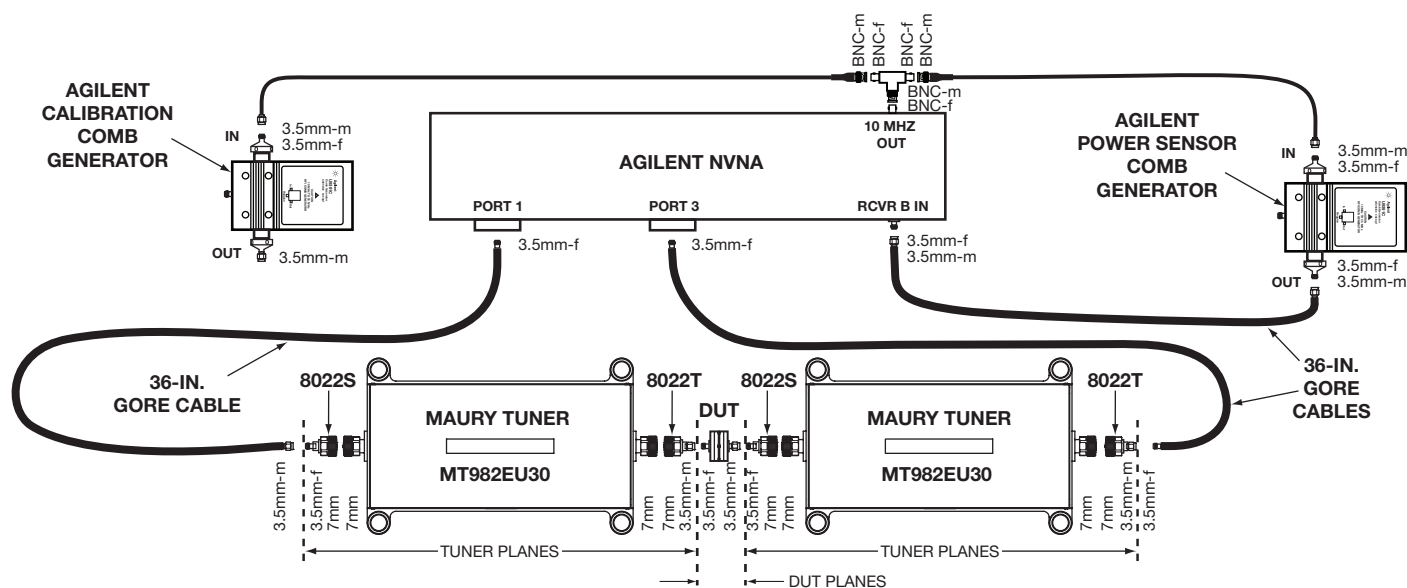

Figure 1. Setup for the Standard Demo
- 3.1 See Figure 1 for the standard demo setup. Every link on the front panel must remain connected except the top link on the right, which must be removed to allow the Comb Generator to be connected to the RCVR B IN.